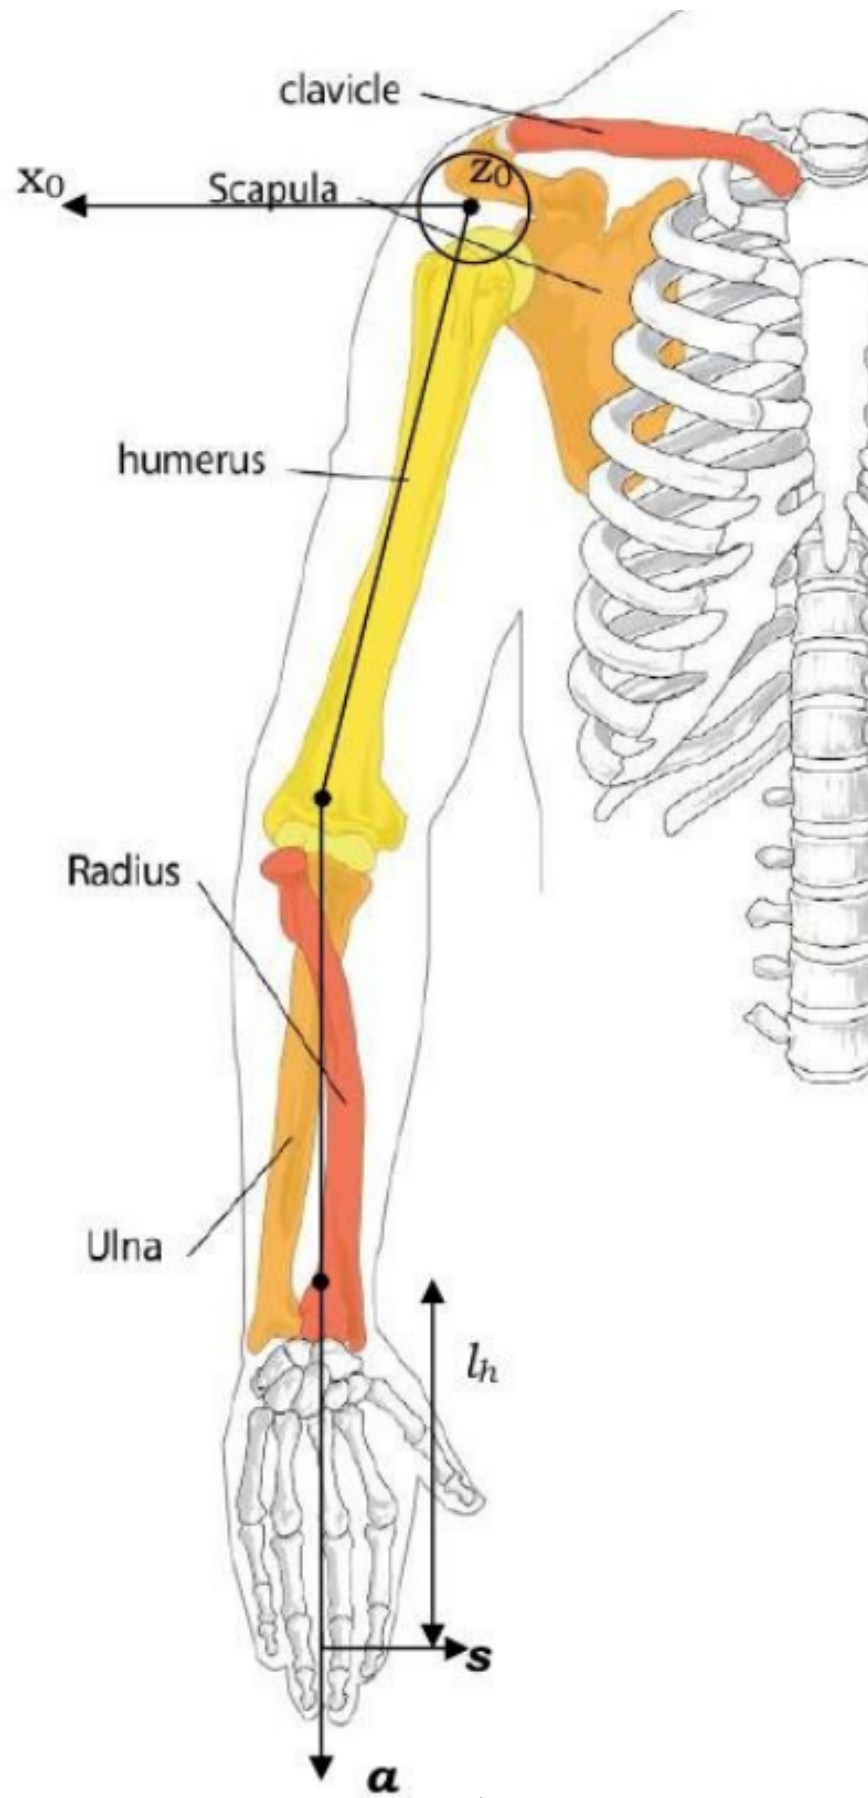

Figure 4: The human arm with joints.
4. [25 points] A kinematic model of the human arm (see Figure 4) co-locates joints (1-3) at the shoulder creating spherical joint; joint (4), a pin joint axis – shown coming out
of the page – at the elbow; joint (5) along the forearm (axial roll), and then joints (6,7) at the wrist for yaw and then pitch. Starting with the  $z_0$  axis coming out at you from the page, and the  $x_0$  axis to your left, as shown (*i.e.*,  $\theta_1$  rotation lowers/raises the arm from the side), **neatly draw and label** all the  $z$  and  $x$  axes and make a complete DH table. **Show and label** all non-zero displacements on the diagram (on Figure 4) and include them in your table. **Give the tool transform** to the tip of the hand frame as shown. Points will be given for clarity.